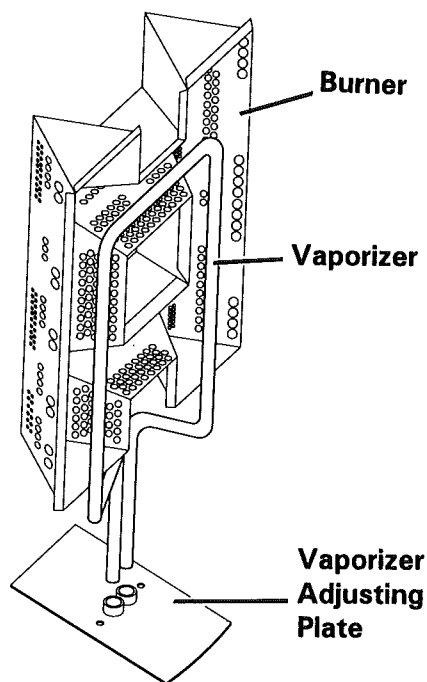

Figure 21 - LP Gas Burner & Vaporizer
- E. Adjusting Vaporizer: At the bottom of the fan housing there is a vaporizer adjusting plate that is held in place by (2) bolts. To adjust vaporizer the (2) bolts have to be loosened. Once bolts are loose, enter the plenum (heat) chamber and move the vaporizer closer to or away from burner. Now exit heat chamber being sure to close door and tighten (2) bolts securing vaporizer plate. See Figure 21.